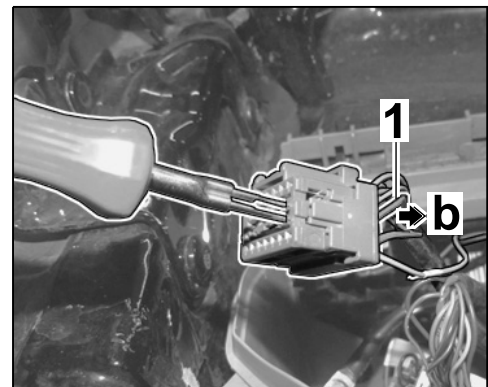

Figure 18
2.4.1 Press socket contact of RD/GN line ⇒ *Figure 18-1-* out of the red connector, chamber 17 using press-out tool ⇒ *Figure 18-b-*.